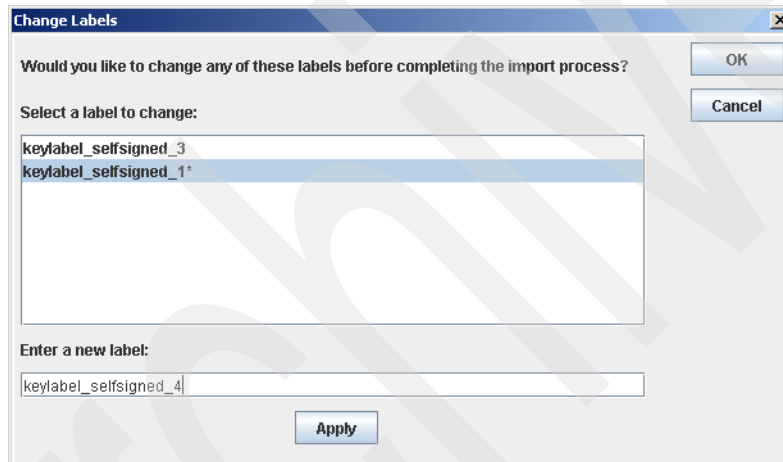

Figure 6-30 Change Labels window
6. Regardless of the duplicate key labels, you are always provided with the opportunity to change the key labels before you import the keys. Select the key label you want to change, enter the new name, and click **Apply**, as shown in Figure 6-30.